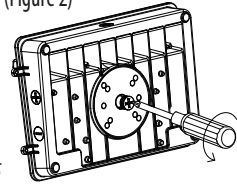

Figure 5
5. Use a screwdriver to remove rear plug, attach the EVA cotton pad to back. (Figure 5)